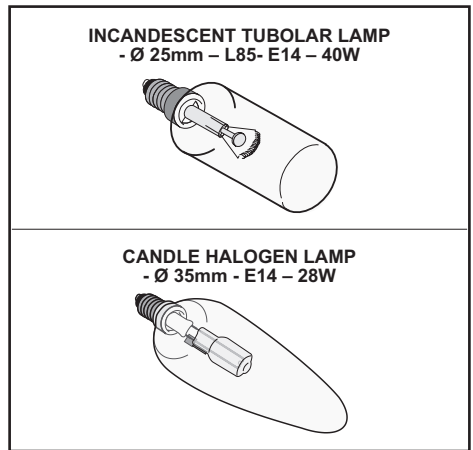

Fig.8B
• **Replacing the halogen/incandescent lamps (Fig.8B):**